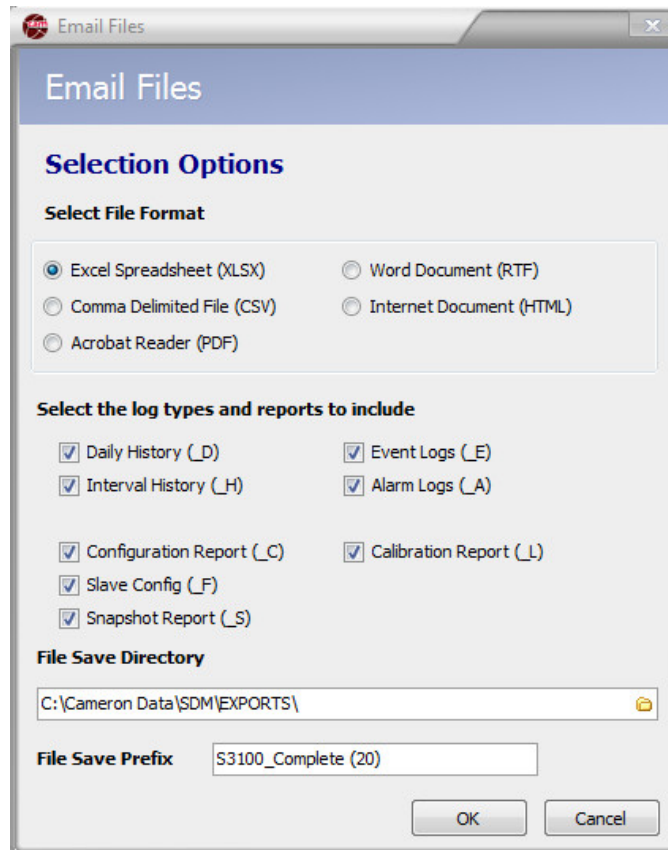

Figure 3.6—Email Files dialog
1. Select **Email Selected** from the *Email Data* dropdown menu and select the desired file format and all desired logs/reports from the options provided (Figure 3.6, page 37).